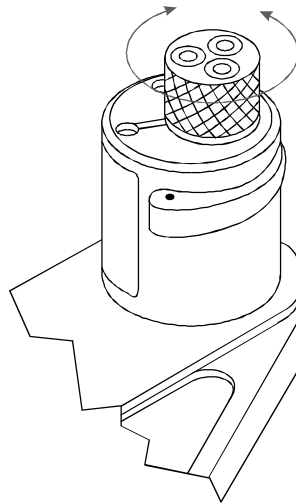

Figure 1-28
7. With the positioner extended, rotate, as shown in Figure 1-28 to select the matching colour index mark as per Figure 1-25.